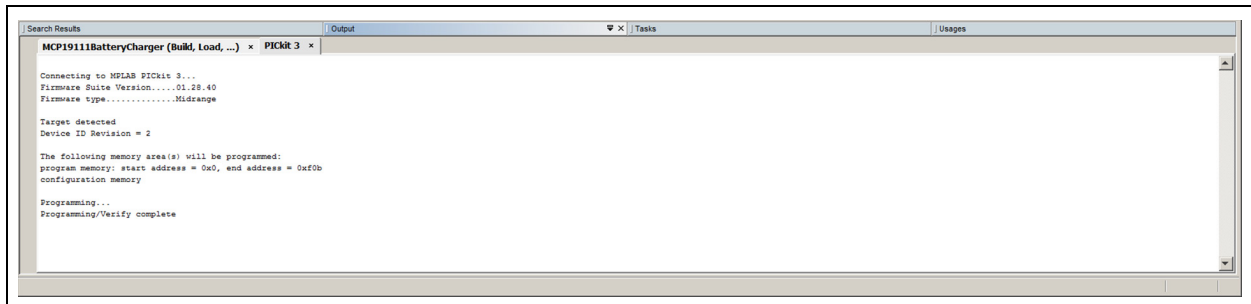

FIGURE 3-10: Program Process Complete Window.
9. Once the project is opened, click on the **Make and Program Device Main Project** (🔧) button on the toolbar to program the device. Wait until the program process is complete, as shown in Figure 3-10.